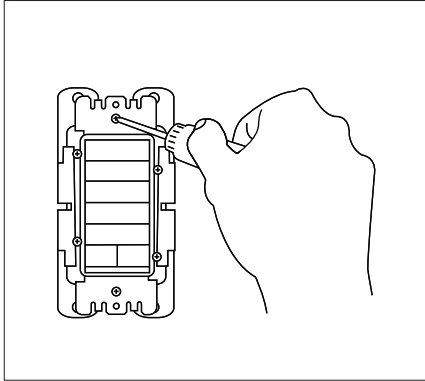

fig. 13
7. Mount the X2 to the wall box using supplied fasteners (see figure 13).